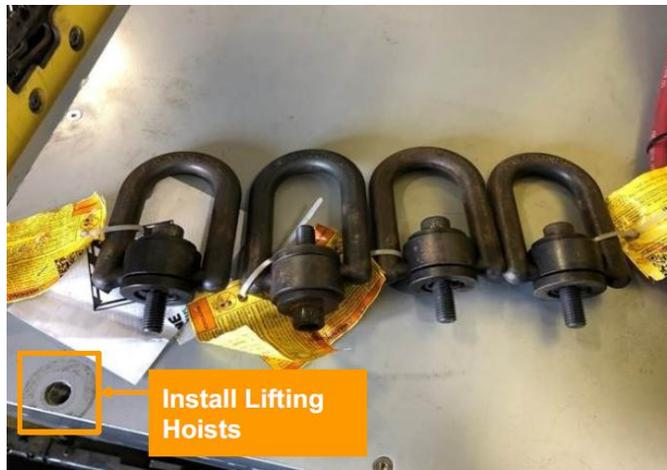

Figure 9: Image depicting where to install M14 lifting hoists on the battery.
2. Install the M14 lifting hoists onto the battery with the power drill (Figure 9).